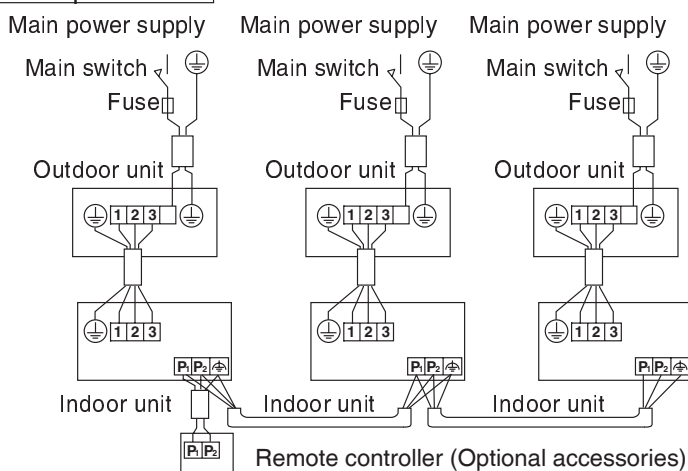

Fig. 26
- **Group control:** 1 remote controller controls up to 16 indoor units. (All indoor units operate according to the remote controller) (Refer to Fig. 26)